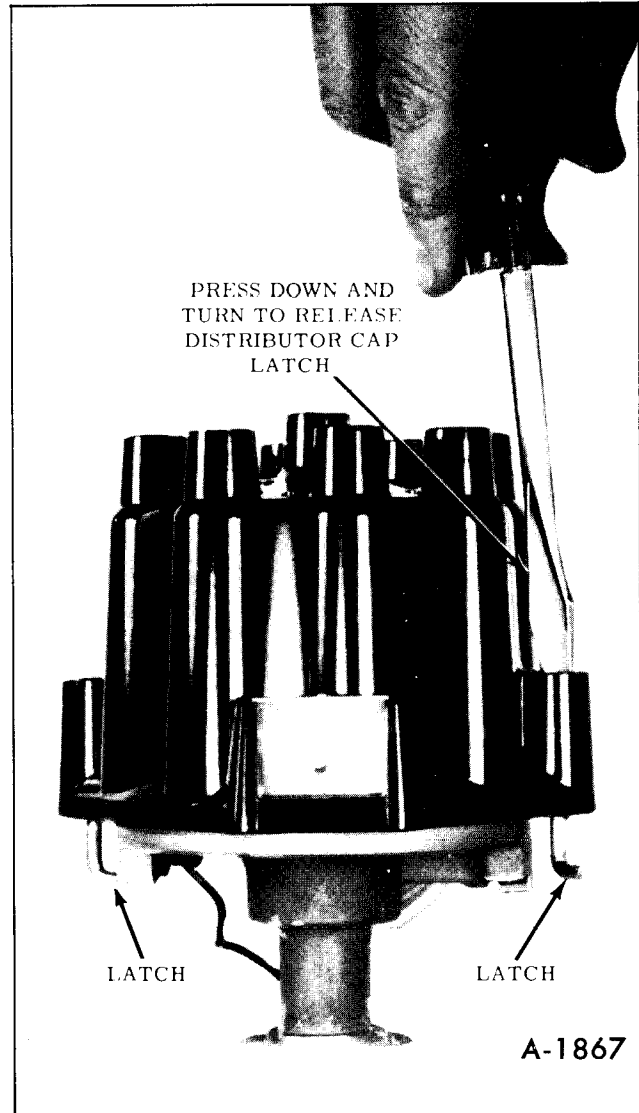

Figure 28-Removing Distributor Cap
1. Remove distributor cap and rotor. (figure 28)
2. Remove distributor cap as shown in Figure 28.